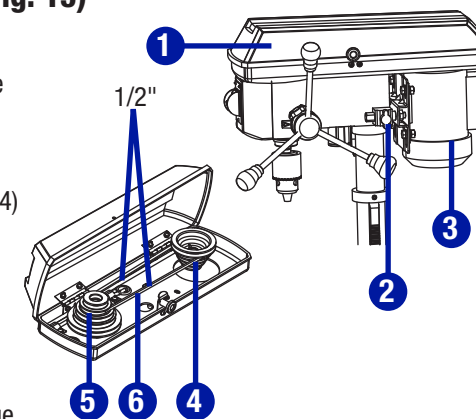

Fig. 15
**ASSEMBLY AND ADJUSTMENTS****ADJUST SPEEDS AND TENSION THE BELT (Fig. 15)**
- Open the drill press pulley cover (1).
- Loosen the belt tension knobs (2) on both sides of the drill press head.
- Pull the motor (3) towards the drill press head.